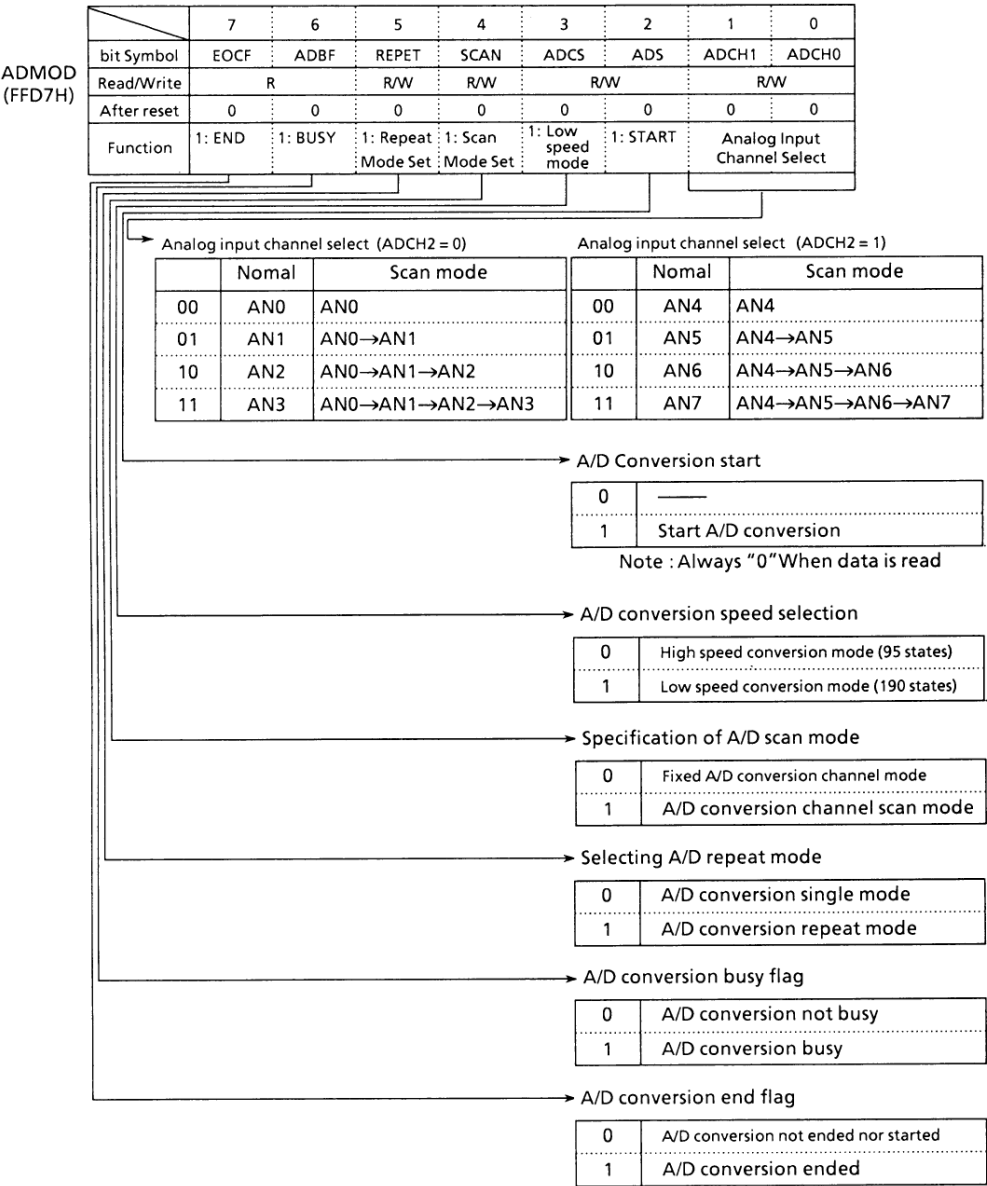

Figure 3.13 (2). A/D Conversion Mode Register (ADMOD)
Figure 3.13 (1) shows the block diagram of the A/D converter. 8-channel analog input pins (AN7 to AN0) are shared by input-only port P6 and so can be used as input port.